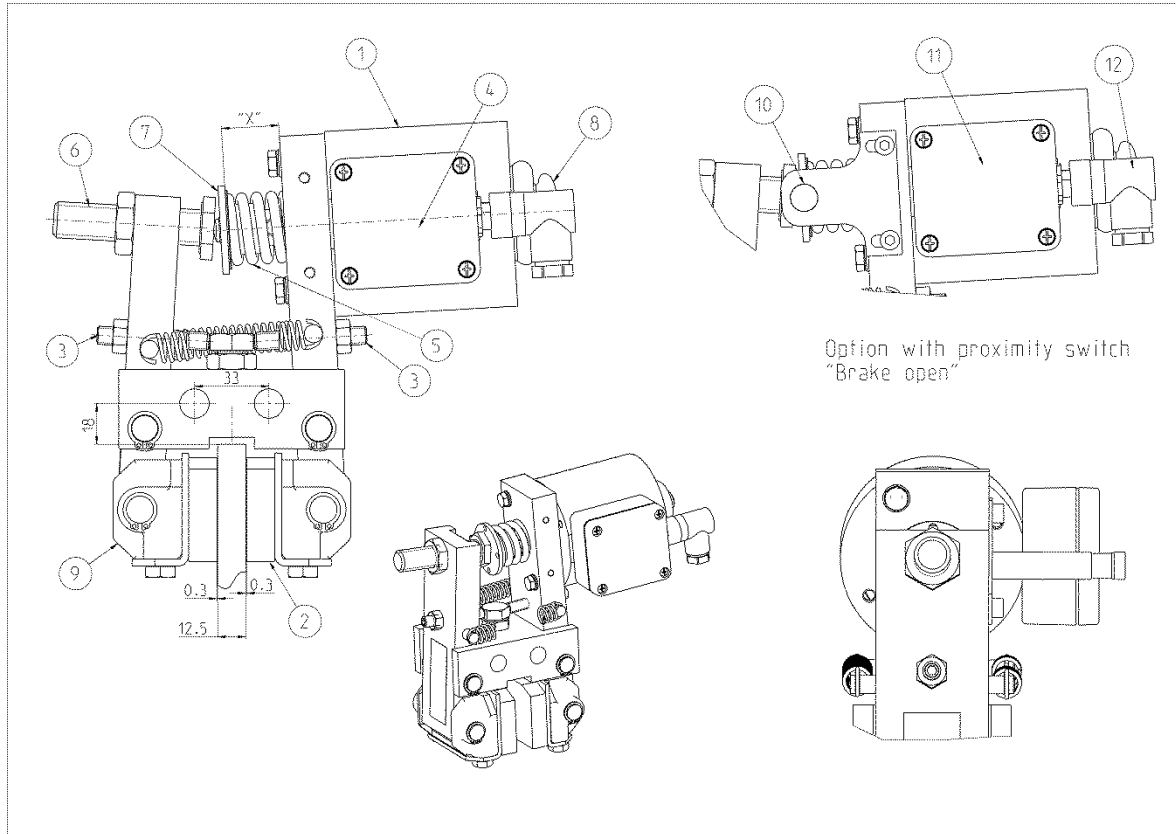

Fig. 2.1
- the DH 012 FEM with left-mounted electromagnet as shown in Fig. 2.1, for mounting on a 12.5 mm thick brake disc.
The friction block distance is adjusted after mounting the brake caliper by adjusting / readjusting with the adjusting screw (3). The distance between the friction blocks and the brake disc on both sides should be approx. 0.3 mm when new. If the friction blocks wear out, brake force must be adjusted. When reaching a dimension of "X" = 27 mm (see figure 2.1) at the latest, brake force adjustment and adjustment of the friction blocks must be carried out.